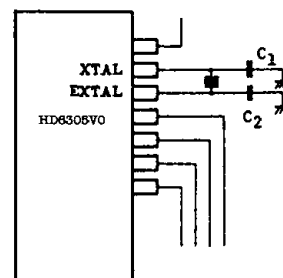

Figure 34 Design of Oscillation Circuit Board
- Board design of situating signal lines or power supply lines near the oscillator circuit as shown in Fig. 35, should not be used because of trouble in oscillation by induction. The resistor between the XTAL and EXTAL, and pins close to them should be $10M\Omega$ or more. The circuit in Fig. 34 is an example of good board design.